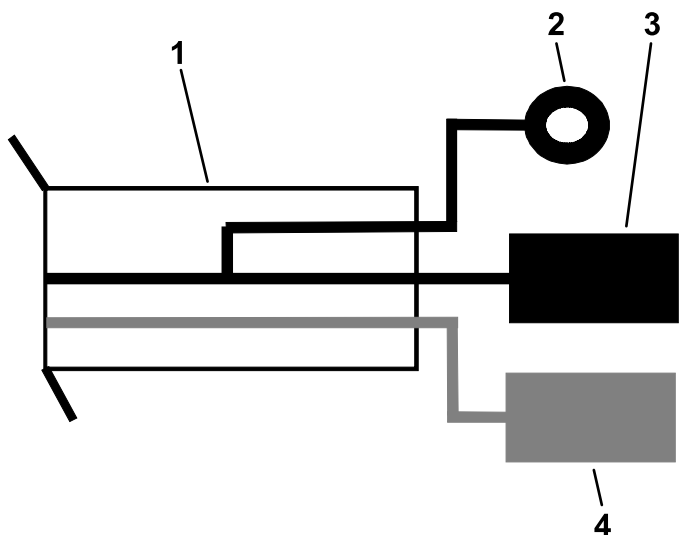

Figure 22
4. Install the black terminal ring to the ground block on the machine (Figure 22).
5. Install the red power wire into an empty slot on the machine fuse block (Figure 22).